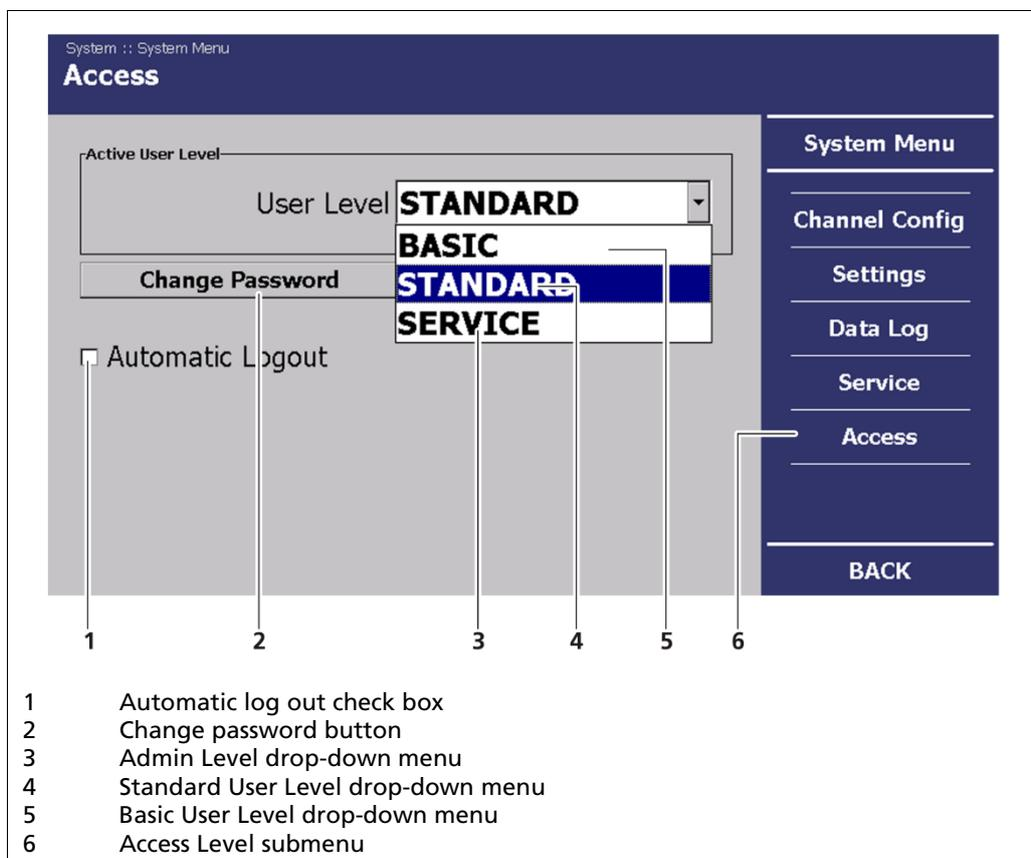

Fig. 47 System Menu, Access Level
2. Select Standard in the drop-down menu of the "User Level" field (Fig. 47, Item 5).
3. Click on **<Change Password>** (Fig. 47, Item 2).